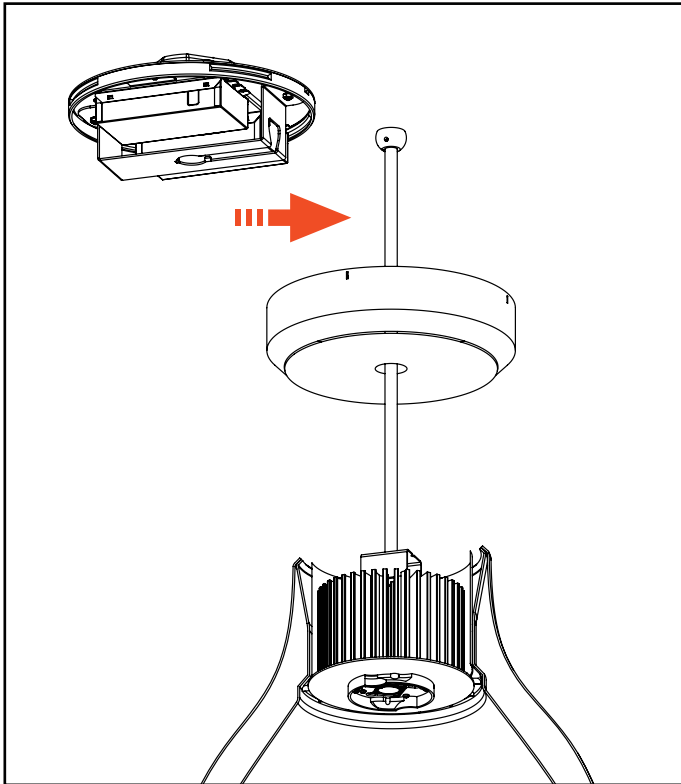

Figure 19
5. Take out the swivel ball end of stem and fixture assembly into swivel support (Fig 19)